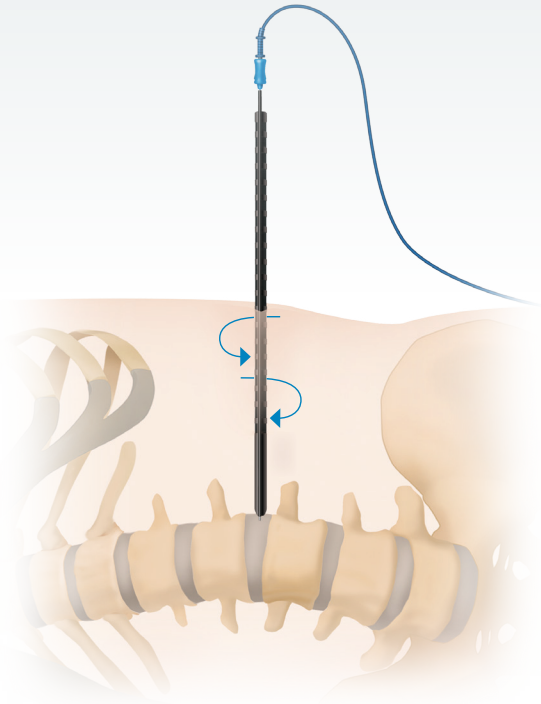

Figure 13a
- Carefully advance the dilator through the psoas muscle using a rotating motion to ensure the dilator is all the way down to the disc, and to ensure there are no muscle fibers underneath the dilator (**Figure 13a**).